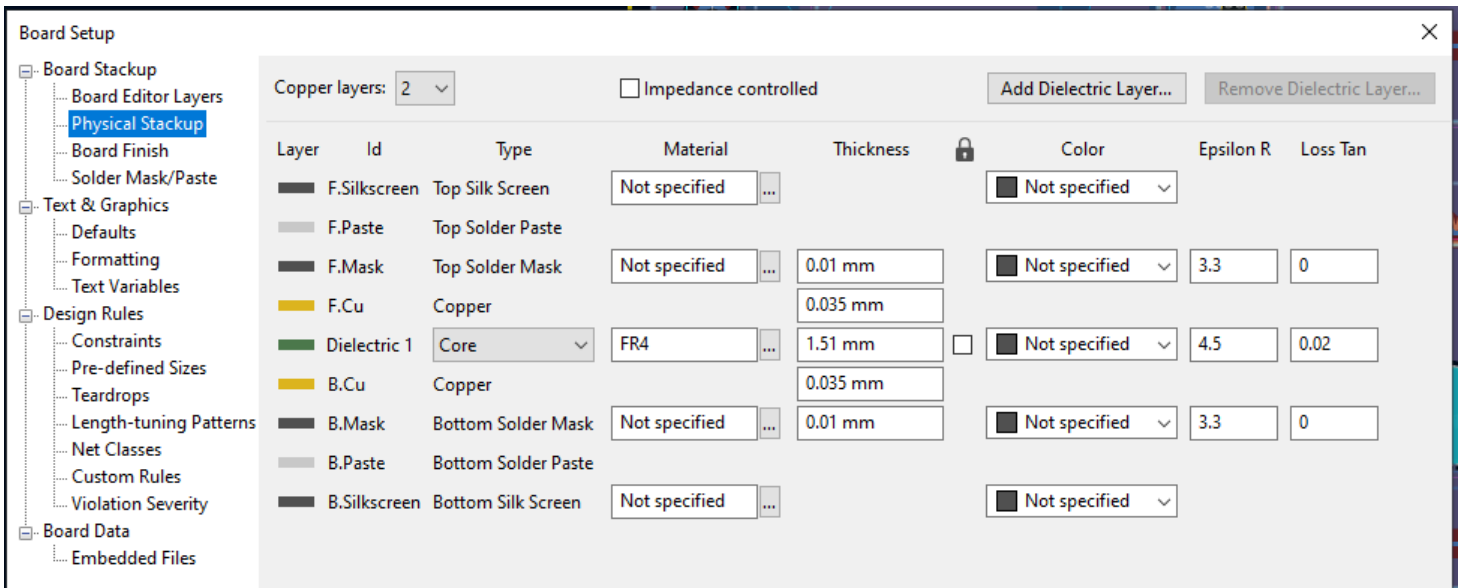

Figure 3: Board Stackup
- Figure 3:** Board Stackup
- **Prepreg:** Shown in Figure 3, this layer is made up of fiberglass impregnated with partially cured resin. It acts as an adhesive to bond together the copper cores as well as insulation between the layers. It provides mechanical strength, electric isolation.